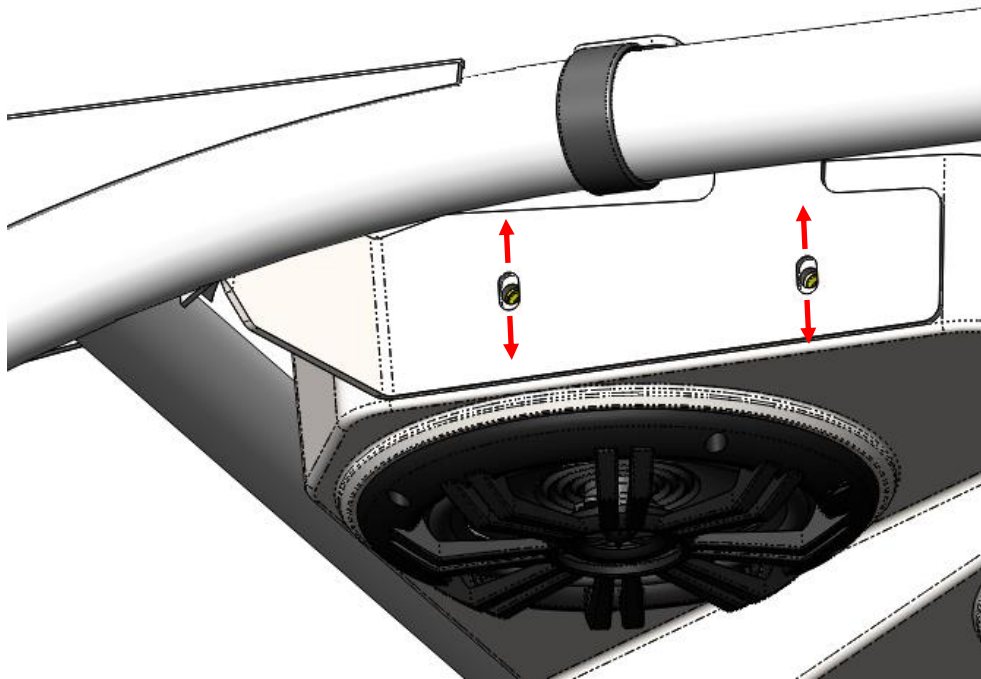
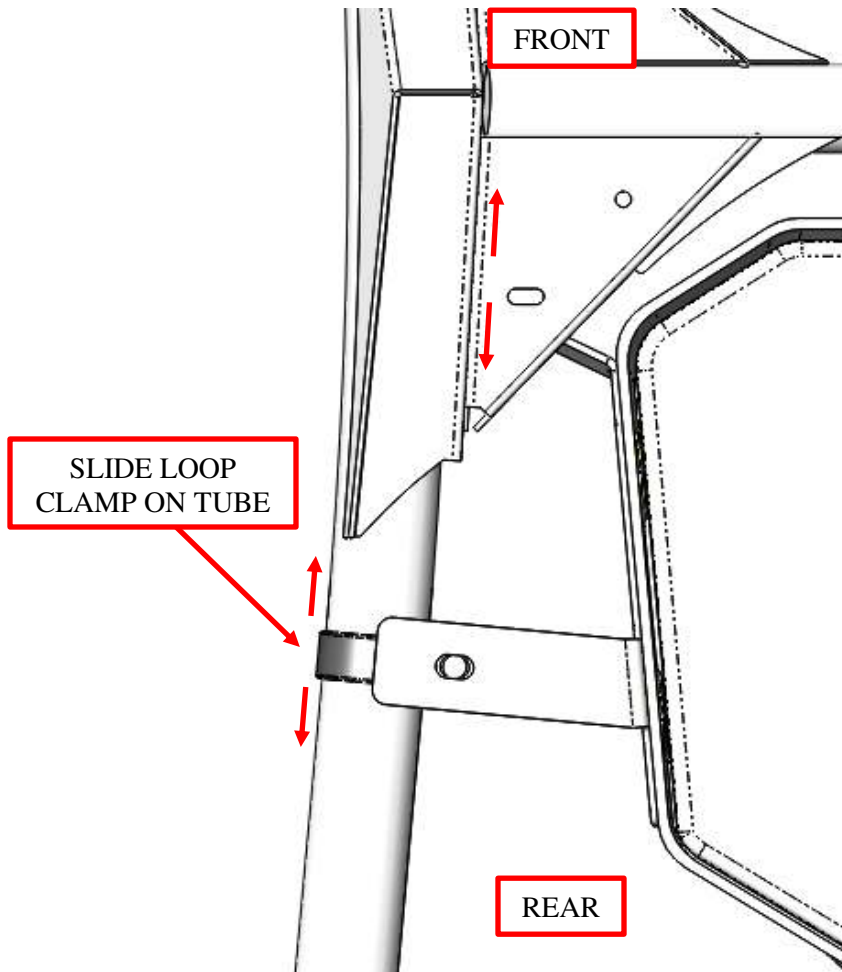

Figure 17: Adjustable up-down positioning of the Audio Mini.
Figure 18: Adjustable front-back positioning of the Audio Mini.
15. Slots in the sides of the *Audio Mini* brackets allow up-down movement, while the slots in the front of the brackets allow front-back movement to achieve your desired position. Slide the loop clamp on the tube with the bracket as you adjust front-to-back positioning. See Figure 17 and Figure 18. Tighten the two front cross member bolts, both loop clamp bolts, and the four mounting bracket bolts after achieving the desired position.